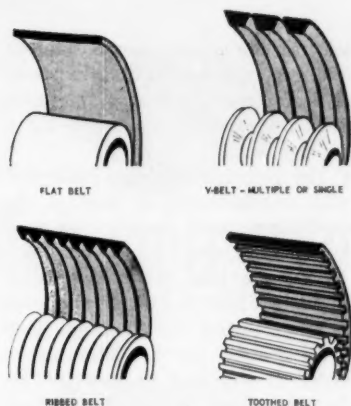

Fig. 1—Types of belt drives.
As shown by comparison of the two curves, Fig. 1, maximum discrepancy in the two theories occurs as B approaches zero and the hole at center of the tube becomes infinitesimal. Neither the approximate
For conservative design, use of the upper plot in Fig. 1 (elasticity theory) is recommended for tubular sections. A value of $K = 0.348$ is recommended for solid bars.
Thus, to determine the transitional value of L/R , K from Fig. 1 is multiplied by the strength constant, C , corresponding to the strength criterion selected as the basis for design.
5. Find value of K . For tubular beams, use upper plot in Fig. 1; for solid bars, use $K = 0.348$.
From Fig. 1 at $B = 0.75$, $K = 0.87$. From Equation 9, $(L/R)_t = 1.732 (0.87) = 1.51$.
FOUR types of belt drives that handle the bulk of power being transmitted through belting are shown in Fig. 1. Load-carrying ability and life of V and flat belts have been enhanced by improved materials, and the range of power coverage is being extended. Addition of a plastic inner ply in one type of flat belting has resulted in marked improvements. The ribbed belt is the successful result of efforts to combine the strength and simplicity of the flat belt with the high grip and positive groove-tracking of the V-belt.
Power applied to the rotor is transmitted to the idler gear with which it meshes. The space between the outside diameter of the idler and the outside diameter of the rotor is sealed by the crescent. As the pump starts the teeth come out of mesh increasing the volume. This creates a partial vacuum, drawing the liquid into the pump through the suction port (Fig. 1). The liquid fills the spaces between the teeth of the idler and the rotor and is carried past the crescent partition through the pressure side of the pump (Fig. 2). When the teeth mesh on the pressure side the liquid is forced from the spaces and out through the discharge port (Fig. 3).